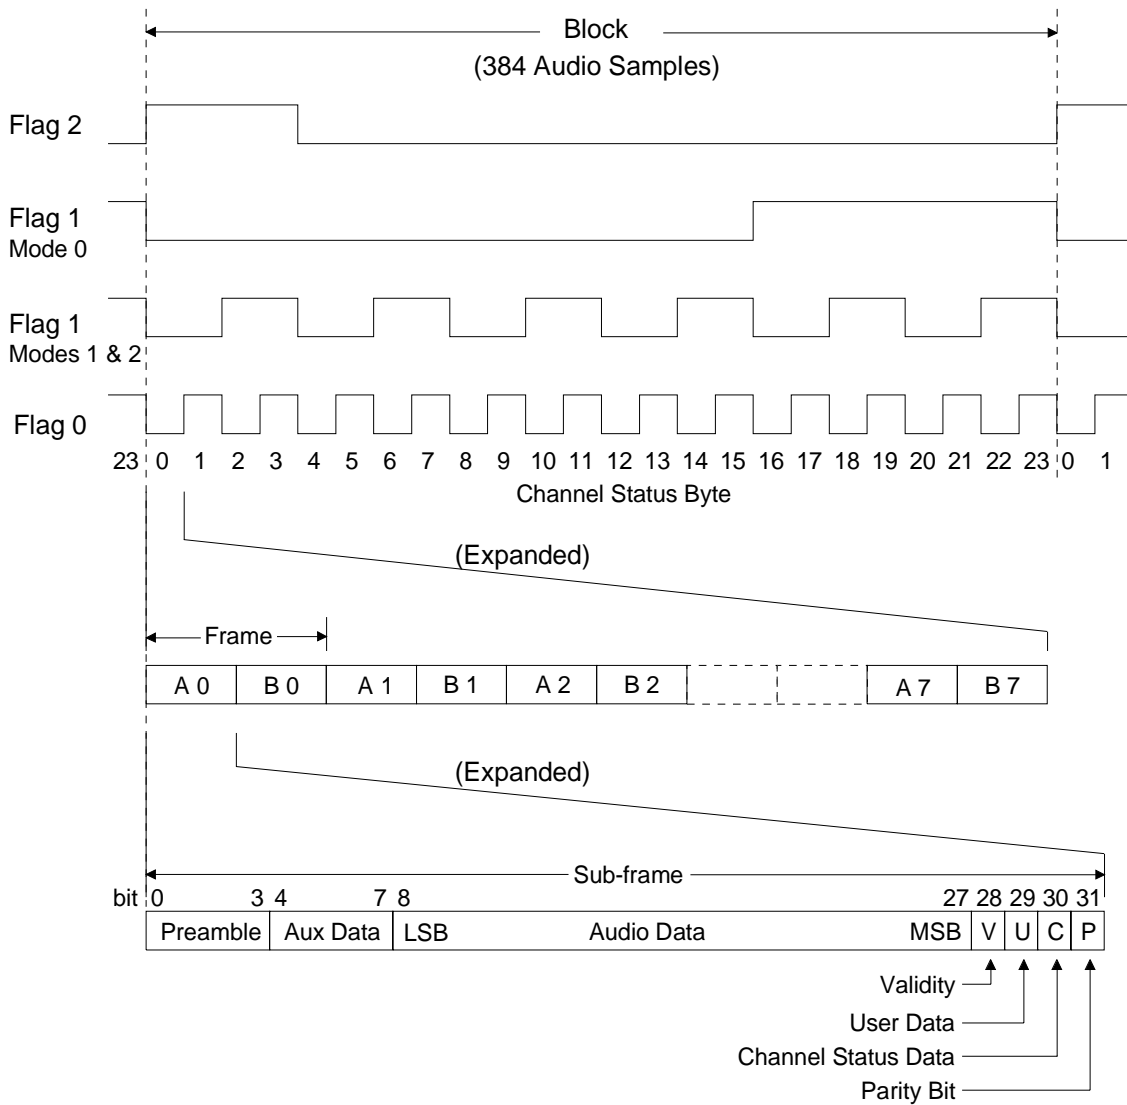

Figure 11. CS8411 Status Register Flag Timing
- FLAG1: Memory mode dependent - See Figure 11
Figure 11 illustrates the flag timing for an entire channel status block which includes 24 bytes of channel status data per channel and 384 audio samples. The lower portion of Figure 11 expands the first byte of channel status showing eight pairs of